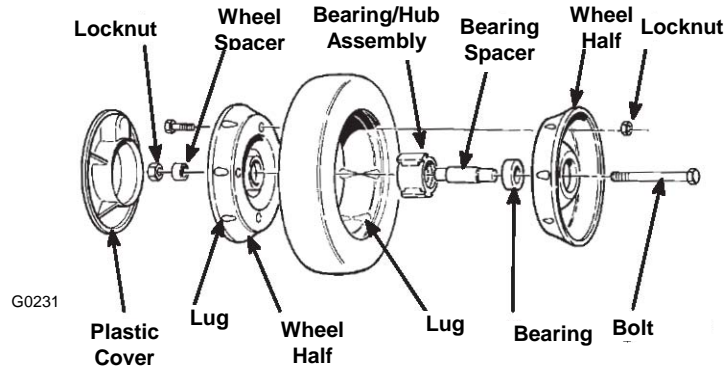

Figure 32
3. Remove the bolt, the wheel spacer, and the locknut mounting the wheel to the pivot arm (Fig. 32).
4. Separate the wheel halves from the tire by removing four bolts and four locknuts (Fig. 32).
NOTE: If you remove the bearings from the bearing/hub assembly, remove them by pressing on the bearing spacer (Fig. 32).
1. Position the tire onto one wheel half, aligning the lugs on each (Fig. 32).